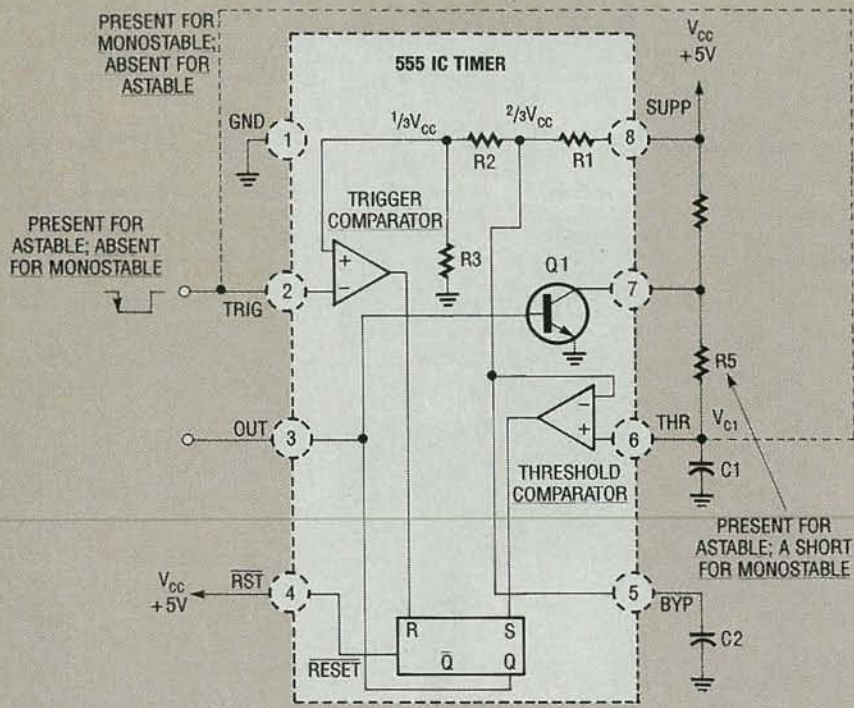

FIG. 1—THE BLOCK DIAGRAM of the 555 timer.
The 555 is the most versatile IC timer ever developed for astable/monostable operating modes, and it needs very few external components to use it. Figure 1 shows the 555's block diagram, with its threshold and trigger comparators, set-reset (S-R) flip-flop, NPN discharging transistor (Q), a noninverting buffer, and an internal voltage divider R1/R2/R3 for comparator reference levels. The flip-flop is "set" if high, and "reset" if low. The comparators sense the variation in C1's voltage in either mode, and charges and discharges C1 between $\frac{1}{3}$ and $\frac{2}{3}$ of V_{CC} , or about 5 volts. C1's voltage is not the output, but it does govern the 555's operation.